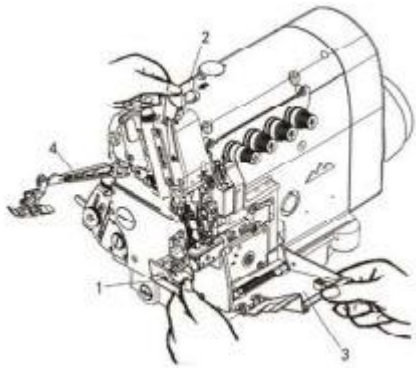

Fig.9
1. Open cloth plate 1, eye guard 2, front cover 3, and presser bar 4. Put each part back after threading the machine (Fig.9)